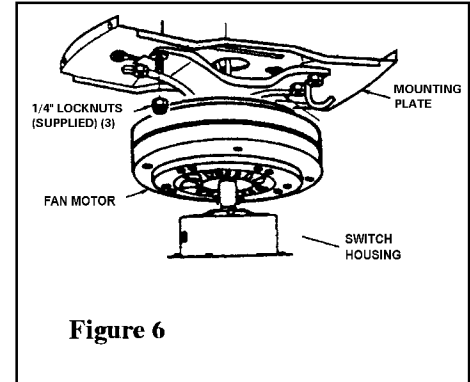
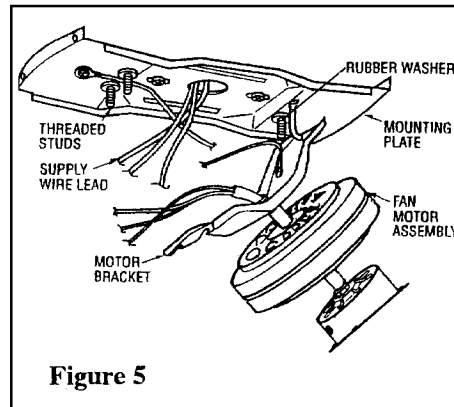

Figure 6
Figure 5
2. Carefully lift the fan motor assembly and engage the slot in the motor bracket with the hook on the mounting plate so that it is securely suspended (Figure 5). Then connect wiring to your fan according to section “Making the Electrical Connections”.
3. Once wiring is completed, lift the motor bracket so that the threaded studs on the mounting plate protrude through the slots in the motor bracket. (Figure 5). Securely tighten the three 1/4” locknuts (supplied) onto the threaded studs, then try to shake the motor bracket to ensure that the assembly is tight (Figure 6).